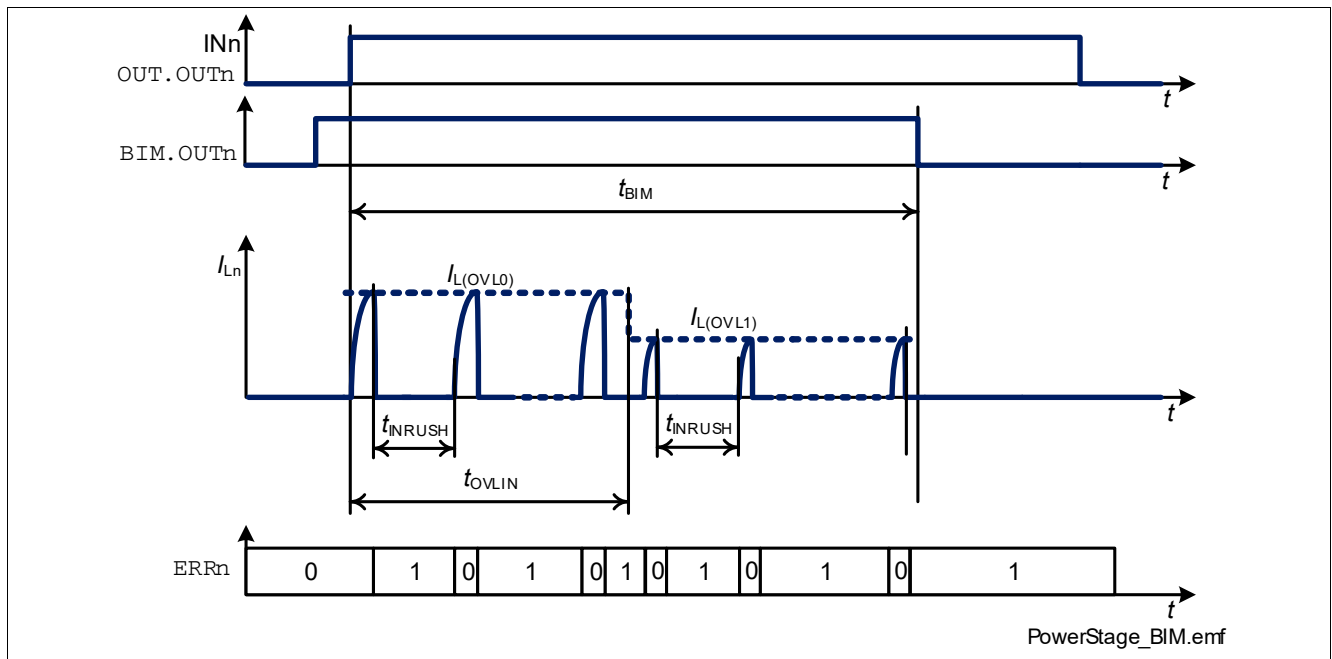
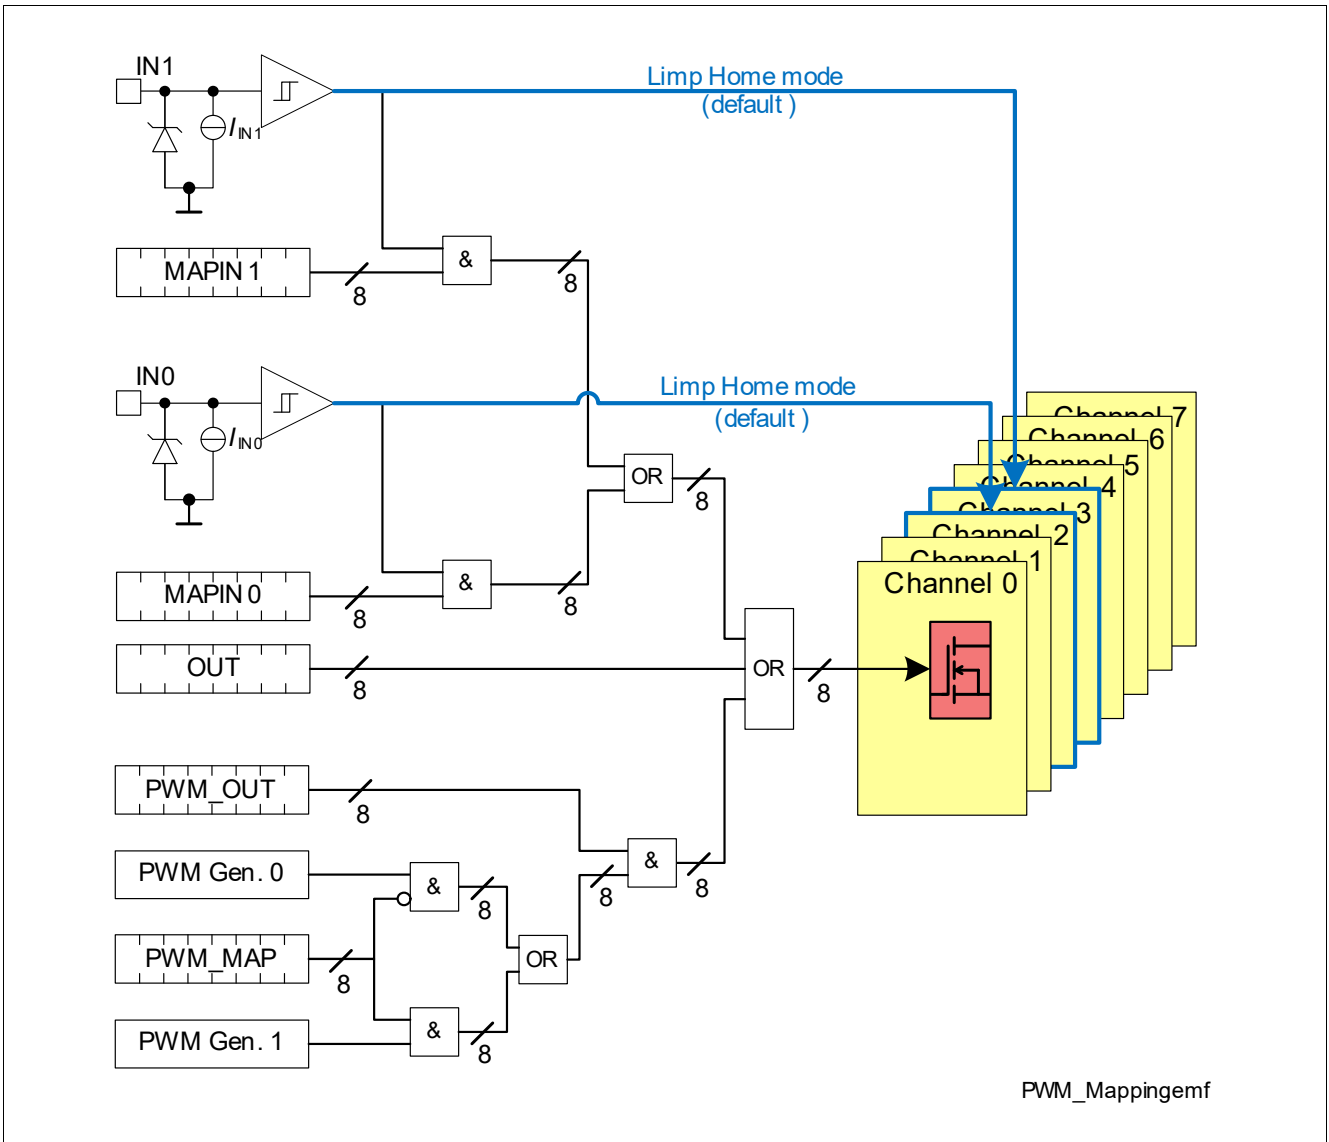

Figure 18 Bulb Inrush Mode (BIM) operation
Figure 19 PWM Generator Mappings
If the corresponding bit **BIM.OUTn** is set to “1”, in case the channel reaches the overload current threshold or the overtemperature threshold and latches OFF, it restarts automatically after a time  $t_{\text{INRUSH}}$ , allowing the load to go out of the inrush phase. A time diagram is shown in Figure 18. As shown, the counter starts when the channel is switched ON. Every channel switch OFF (independently from the entity controlling the channel - see Figure 19 for further details) resets the bit **BIM.OUTn** to “0”.
**Figure 19** expands the concept shown in **Figure 10** adding the PWM Generators.